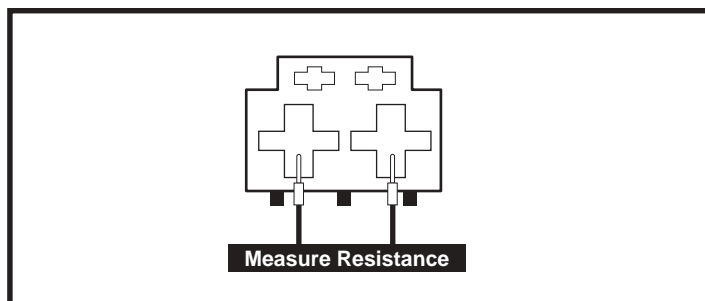

Figure 35. Connector 8a
2. Measure resistance from pin 1 to pin 2 on connector 8a. **See figure 35.**
- *If your multimeter indicates about 0.5 – 1.5 ohms, then replace the power module (2) and retest the system.*